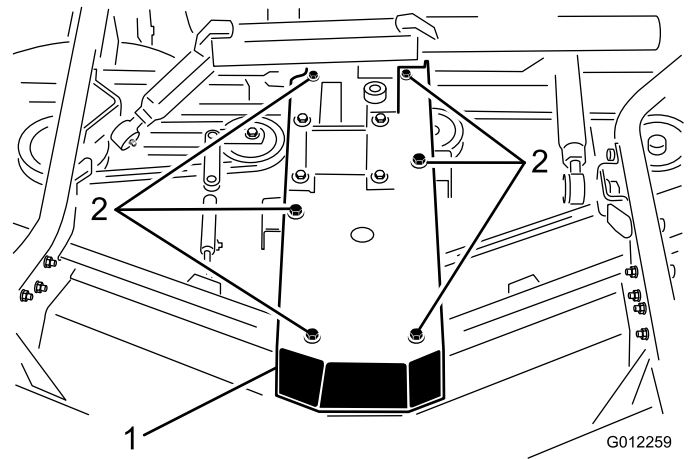

Figure 23
3. Remove the capscrews and nuts securing the gear box plate to the deck channels (Figure 23). Lift the gear box plate and gear box off of the deck channels and lay it on top of the deck.